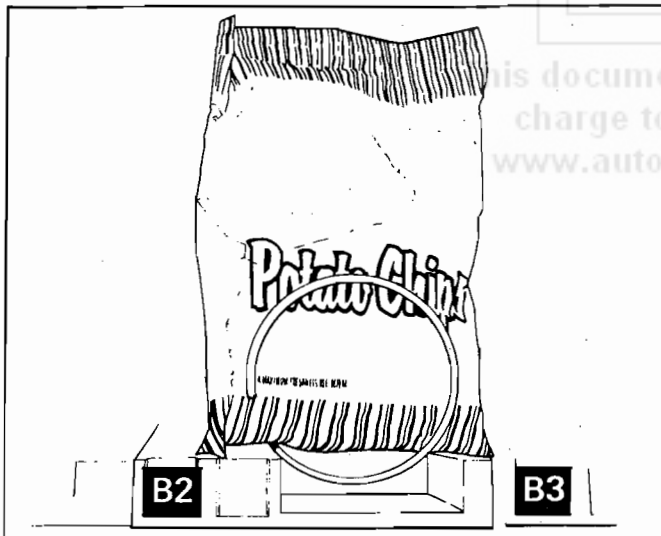
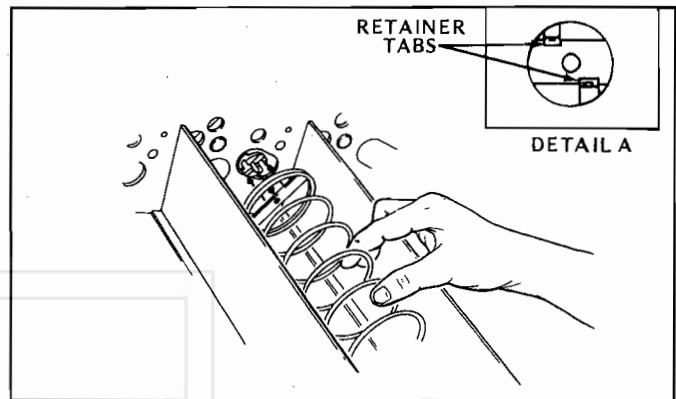
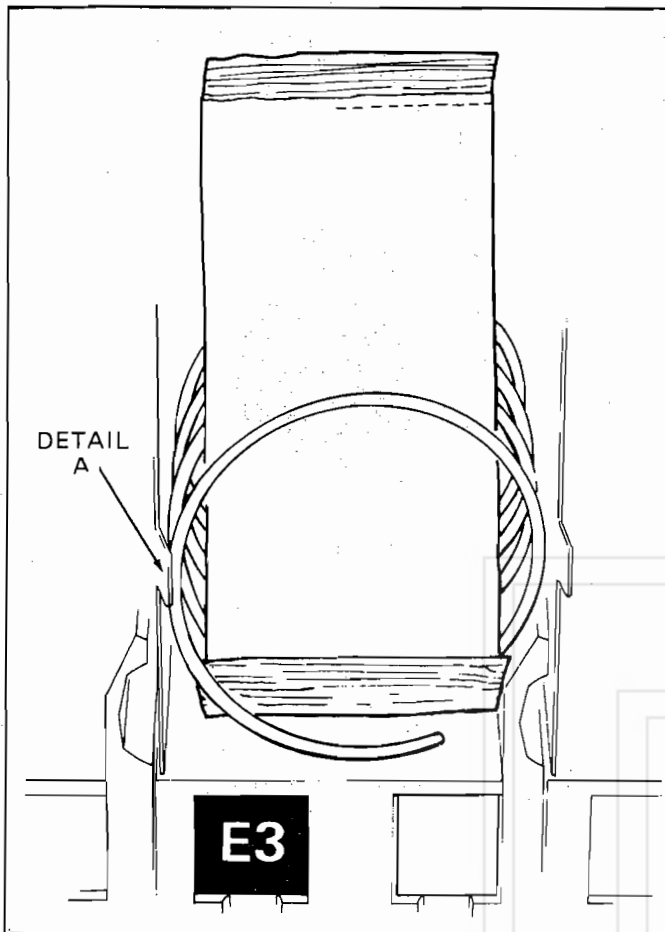

Figure 2. PLACEMENT OF PRODUCT ON MAIN PRODUCT SNACK SHELVES AND FRONT END POSITION OF SPIRAL.
Figure 3. REMOVING AND INSTALLING SPIRAL.
Figure 5. PLACEMENT OF PRODUCT ON MAIN PRODUCT CANDY SHELVES AND FRONT END POSITION OF SPIRAL.
**IMPORTANT:** Product must not be forced into the spiral spaces but should fit freely. If the product is too tight, use a larger pitch spiral. The bottom of the product should be placed on top of the spiral wire that rests on the shelf surface (see Figure 2). The width of the product must be greater than the diameter of the snack spiral. If it is smaller, the product may fall through when it is in the front, ready to vend position.
4. REMOVAL OF SPIRAL: To remove the spiral, grasp the spiral near the rear of the shelf and pull forward. To install a spiral, align the hole in the cross strap, at the rear of spiral, with the motor shaft. (See Figure 3). Be sure the front end of the spiral is positioned properly (with the
front end of spiral pointing downward on the left side) (see Figure 2); align strap between retainer tabs on spiral retainer (see Detail A, Figure 3) attached to motor shaft, push spiral to rear until both tabs snap over strap (see Figure 3). Give a light forward pull on front of spiral to check if it is locked in place.
6. **LOADING MAIN PRODUCT CANDY SHELVES:** The 8-selection (candy type) shelves are loaded similar to the 4-selection shelves except that the bottom of the product sits on the shelf in front of the spiral wire (see Figure 5) that rests on the shelf. These products must also fit prop-
erly in the spiral space; do not force product into spiral. These spirals are removed and installed the same as the large spiral (see Figure 3); except that the front end position is different (approximately 5 o'clock) (see Figure 5) and the front left side of the spiral must be behind the small tab located on the left side of the product space side wall (see Figure 5, Detail A).